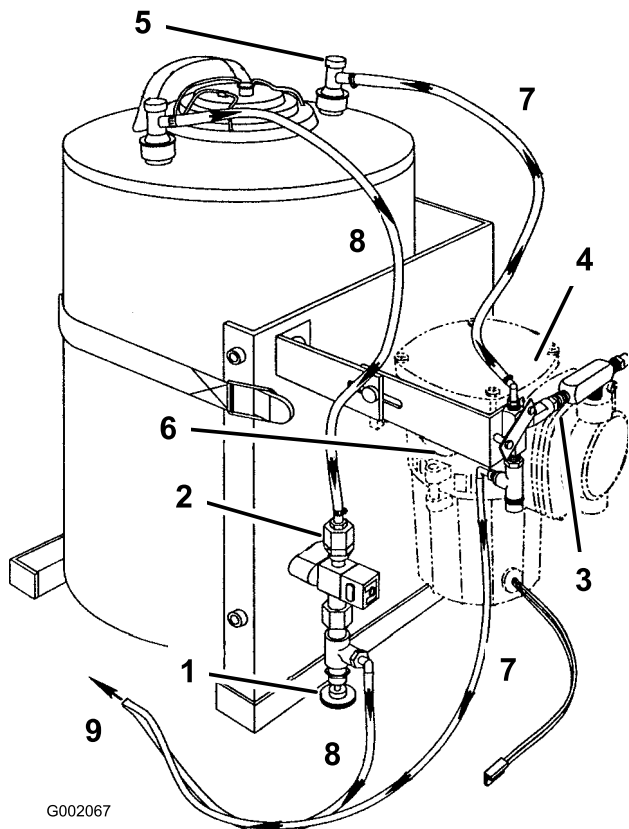

Figure 33
15. Close the foam density adjustment valve completely (Figure 33).
11. Close the foam density adjustment valve completely (Figure 33).
8. For the initial operation, open the foam density adjustment valve 1/8 to 1/4 turn (Figure 33).